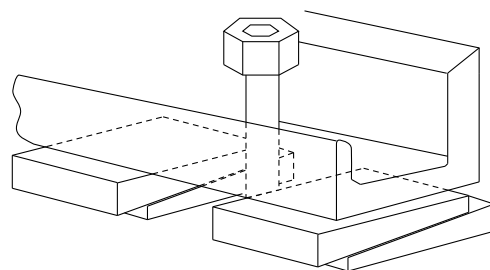

Fig. 4 Foundation Bolting Location and Anchorage Mount and leveling
2. Locate the foundation bolts by the use of a template frame and provide anchorage as shown in fig. 4. See the outline drawings furnished with each pump for the exact location of the foundation bolts.